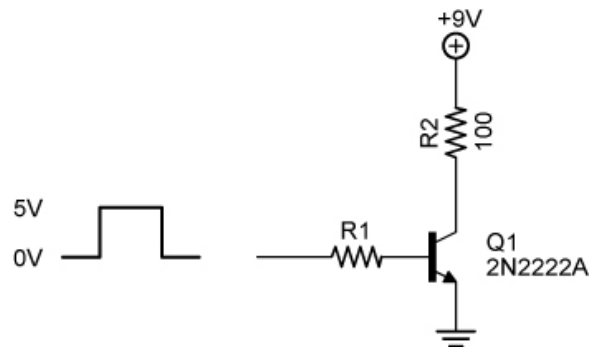

Figure 22: Determining Base Resistor Example
- o Calculating the base resistor value for a transistor switch circuit in Figure 22: